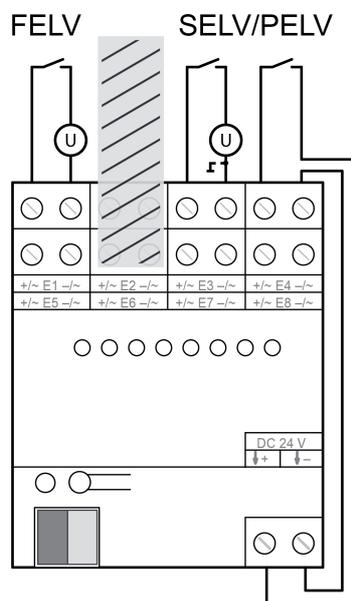

Figure 5: Connection example SELV/PELV and FELV circuits
- Leave two unused inputs between the inputs wired with SELV/PELV and FELV circuits (figure 5).